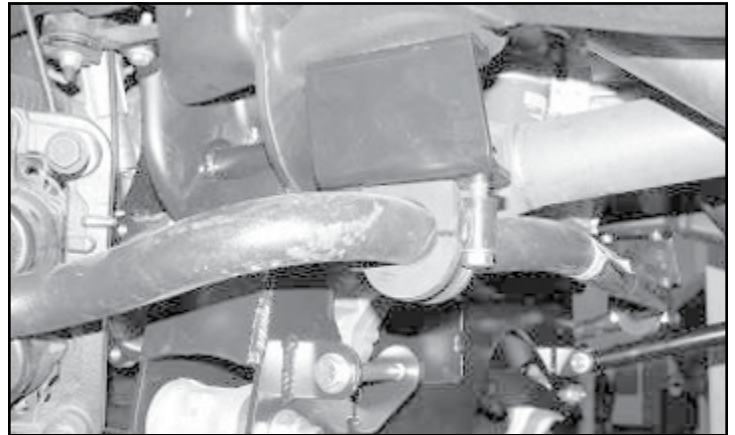

FIGURE 54 - STEP 40
40. Locate FT20312 (Drv), FT20318 (Pass) Sway Bar Frame Bracket, and the supplied 7/16" x 2 1/4" and 10mm x 30mm hardware. Position the frame bracket on the frame so that sway bar will be farther back from the suspension and attach with the 10mm hardware. Locate the factory sway bar with the factory mounts and attach to the new brackets with the 7/16" hardware and torque to 83 ft-lbs. and the 10mm hardware to 58 ft-lbs. **SEE FIGURE 54**